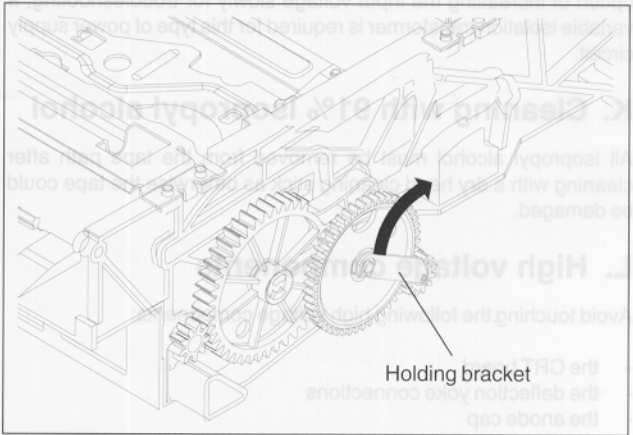

Fig. 1-14
1. Free the holding bracket (fig. 1-14) by rotating it up and back from the upper end.